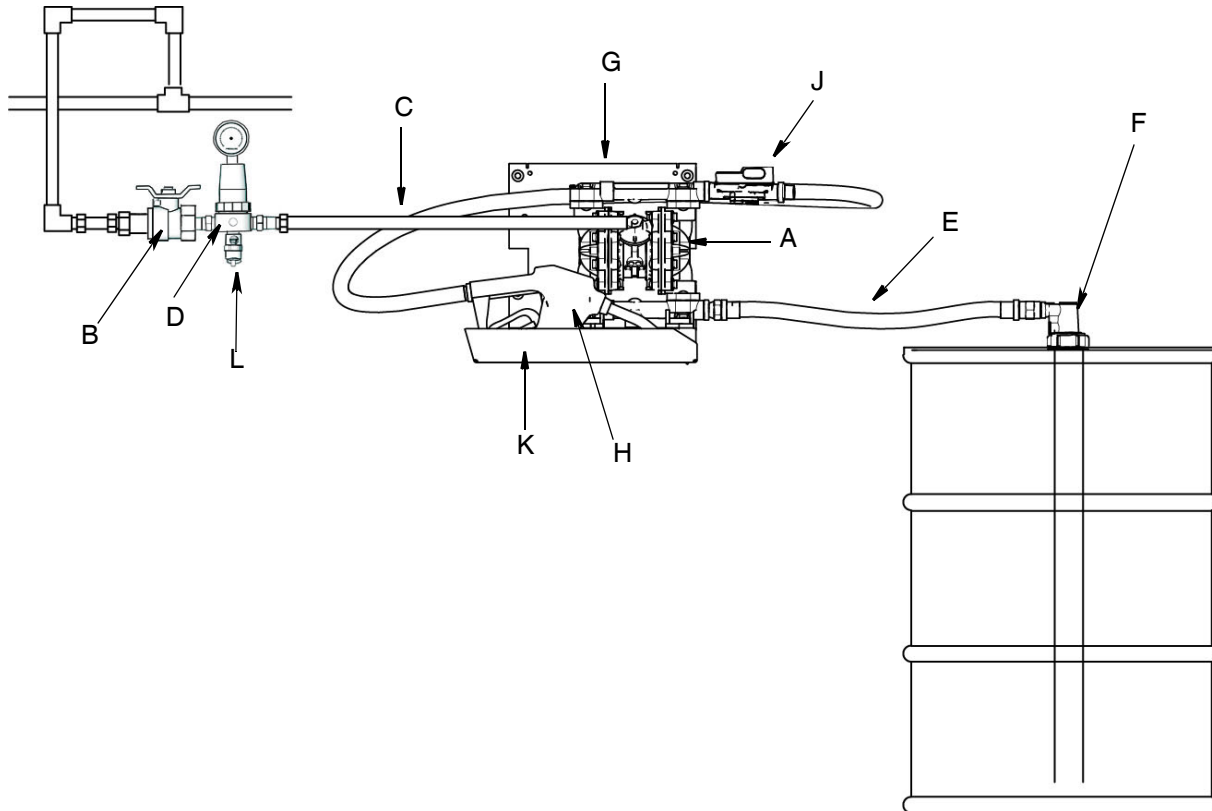
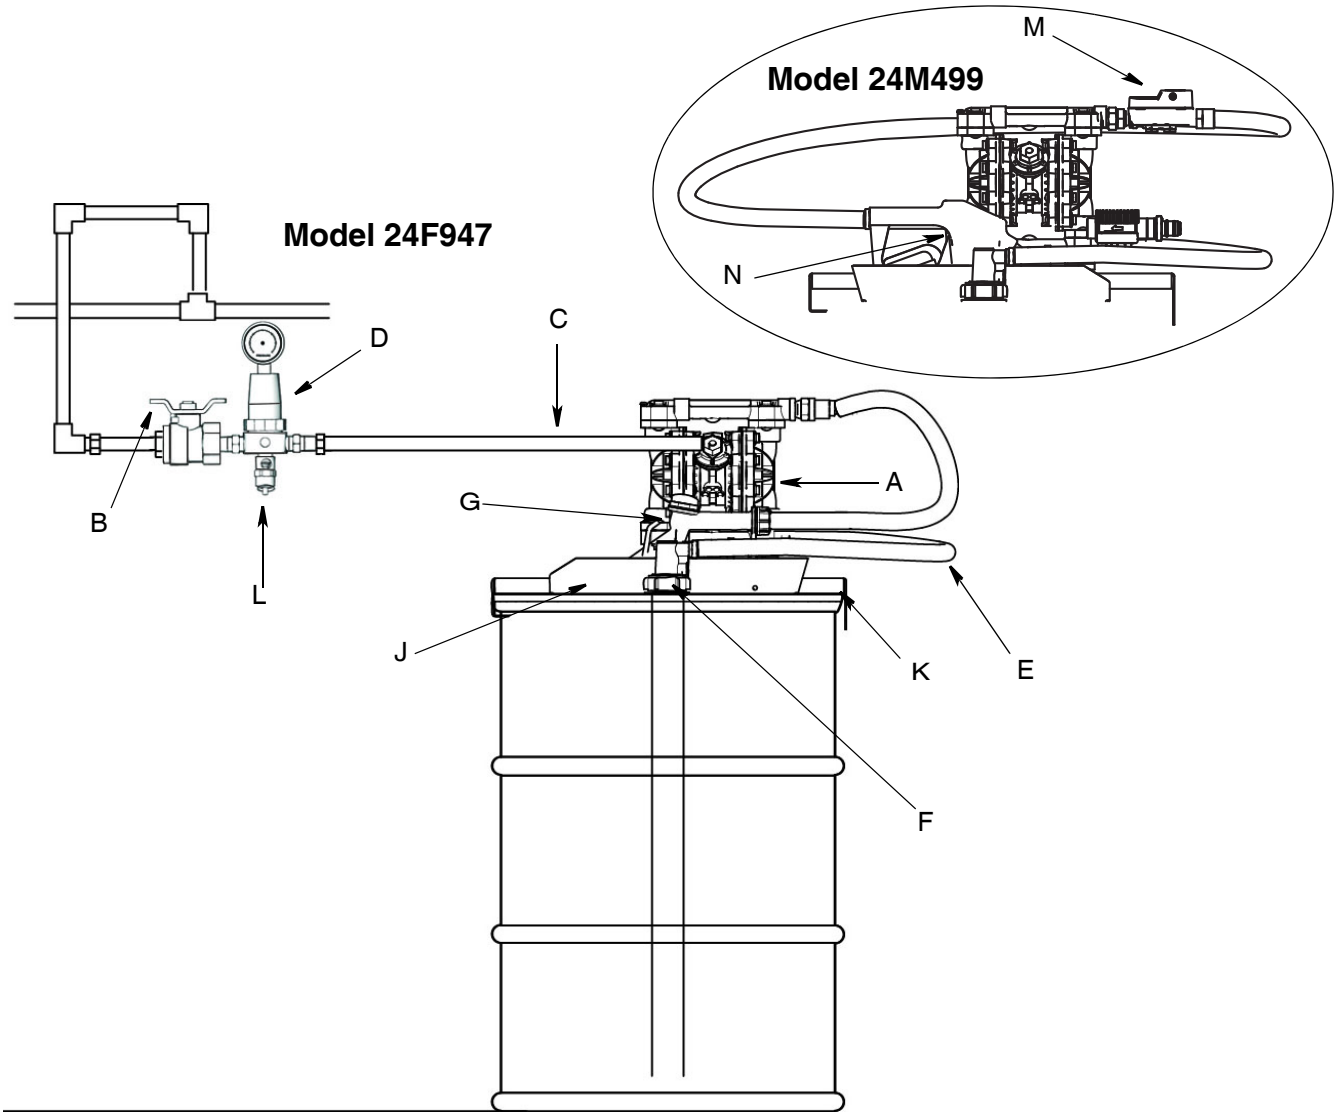

FIG. 1
FIG. 2
1. Turn OFF air supply to pump (FIG. 1).
Alpha letters included in the following instructions refer to letters shown in Typical Installation examples (FIG. 1 - FIG. 2, pages 4 - 5).